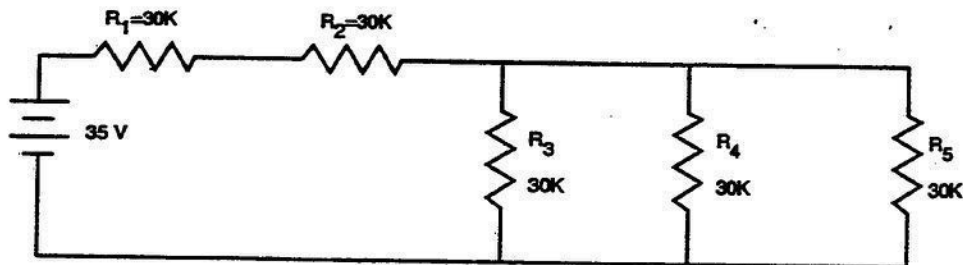

Figure 2-54. Lesson 023, self-test question 12.
12. Using the circuit in figure 2-54, calculate the unknown values.